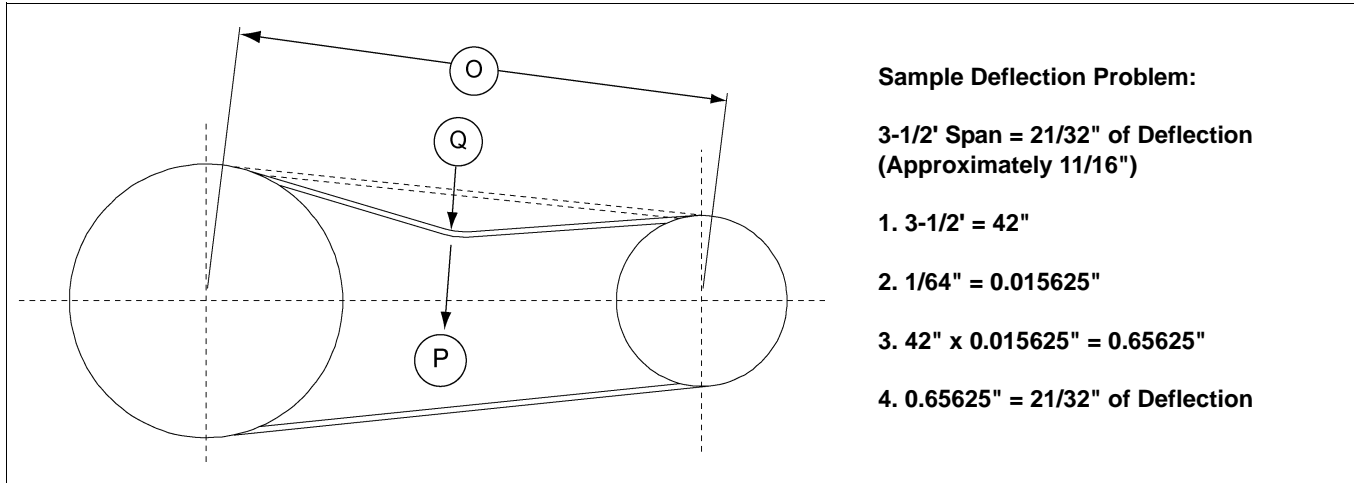

Figure 40
Adjustment of V-belt tension is achieved by tightening the hex nuts located on the four (4) jack screws of the motor base. Adjust motor base equally at all four (4) jack screws to maintain shaft alignment. Belts are designed to fit loose upon installation. When the V-belt tension is correct, tighten the top nut on the jack screws to lock the motor base in position. Proper tension is $1/64$ " of deflection per one inch (1") of sheave centers on one side of belt, centered between sheaves. (See Figure 40.)